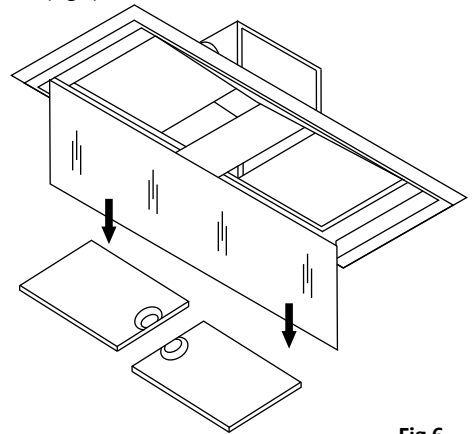

Fig 6
2. Remove the grease filters from inside the hood (Fig 6).